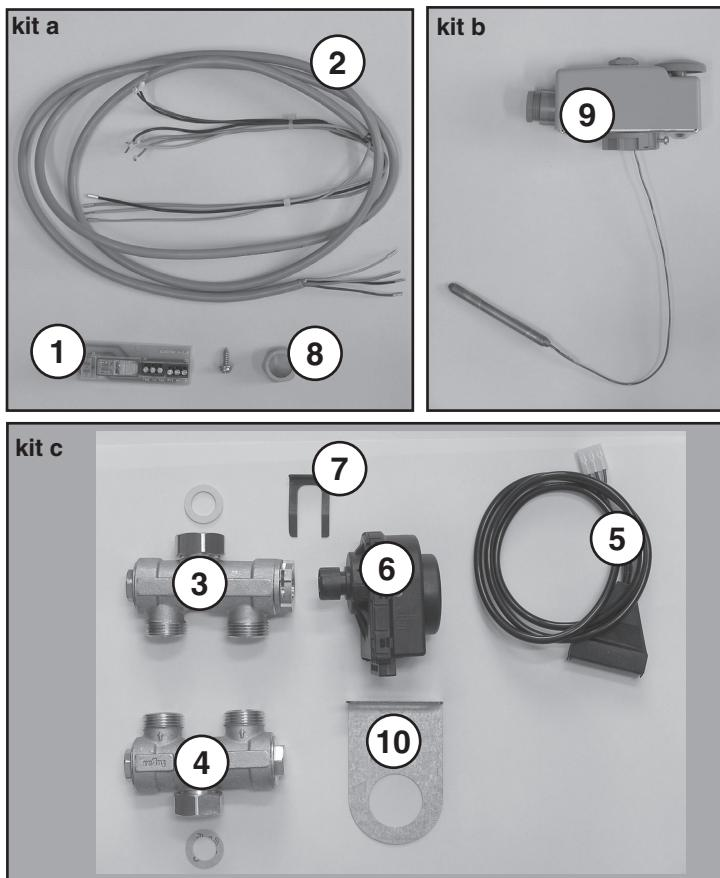

fig. 1
2. Install a shutting valve to the boiler heating water outlet. Then install the mechanical part of the actuator-controlled 3-way valve (Fig. 1, position 3), so that the control valve is facing right. Please note: shutting valve is not part of the delivery.
5. To the boiler heating water inlet install a filter, a shutting valve and then the distributor which is part of the interconnection kit (Fig. 1, position 4). Please note: Filter and shutting valve are not part of the interconnection kit.
12. Take out the cable with connectors from the kit (Fig. 1, position 5), and plug the larger of the connectors to the 3-way valve actuator (Fig. 1. position 6).
13. Take out the connector safety shield from the kit (Fig. 1, position 10), and thread the 3-way valve actuator cable through the rectangular cut-out (Fig. 3)
15. Insert the subassembly on the brass part of the 3-way valve and secure it with the clip which is part of the interconnection kit (Fig. 1, position 7).
17. Take out the cable harness form the interconnection kit (Fig. 1, position 2) and connect the tank thermostat (Fig. 1, position 9) and the newly installed control board of the actuator-controlled 3-way valve to the boiler connection terminal box.
19. Insert the distance ring (Fig. 1, position 8) into the tank thermostat and secure it with a self-cutting screw (Fig. 4).